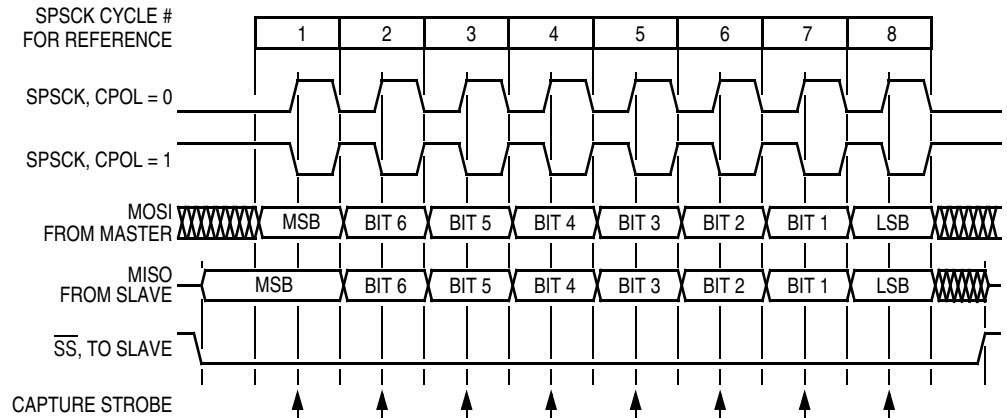
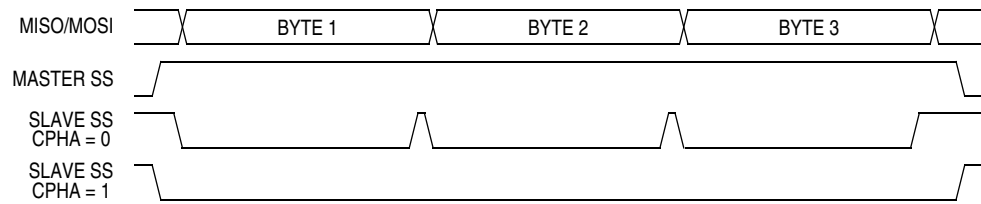

Figure 15-5. Transmission Format (CPHA = 0)
Figure 15-6. CPHA/ \overline{SS} Timing
Figure 15-5 shows an SPI transmission in which CPHA is logic 0. The figure should not be used as a replacement for data sheet parametric information. Two waveforms are shown for SPSCCK: one for CPOL = 0 and another for CPOL = 1. The diagram may be interpreted as a master or slave timing diagram since the serial clock (SPSCCK), master in/slave out (MISO), and master out/slave in (MOSI) pins are directly connected between the master and the slave. The MISO signal is the output from the slave, and the MOSI signal is the output from the master. The SS line is the slave select input to the slave. The slave SPI drives its MISO output only when its slave select input (SS) is at logic 0, so that only the selected slave drives to the master. The SS pin of the master is not shown but is assumed to be inactive. The SS pin of the master must be high or must be reconfigured as general-purpose I/O not affecting the SPI. (See 15.6.2 Mode Fault Error.) When CPHA = 0, the first SPSCCK edge is the MSB capture strobe. Therefore, the slave must begin driving its data before the first SPSCCK edge, and a falling edge on the SS pin is used to start the slave data transmission. The slave's SS pin must be toggled back to high and then low again between each byte transmitted as shown in Figure 15-6.